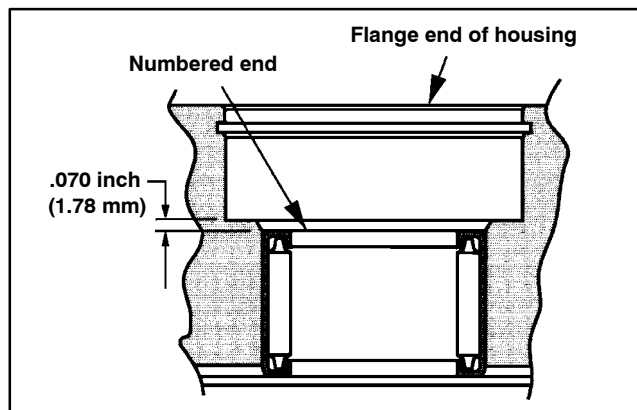
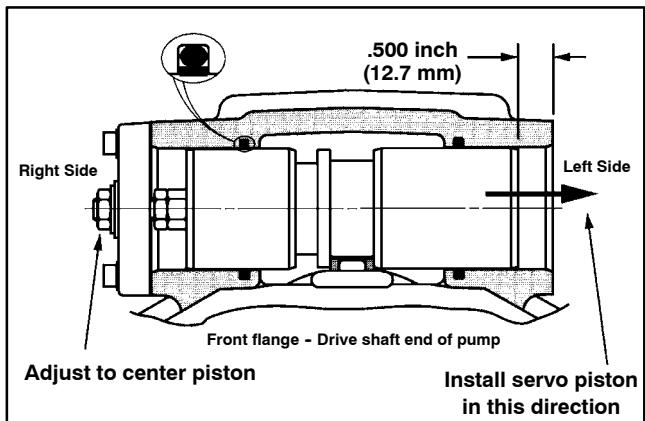

Figure 48
Figure 50
2. Check the bearing (39) (press fit) in pump housing (19). If needles remain in cage, move freely, and setting at the dimension shown in Figure 48, bearing removal is not required.
2. If necessary, press new bearing into pump housing to dimension shown in Figure 48 with the numbered end of bearing outward.
3. Install the two new seal sub-assemblies (37) into the servo piston cavity of pump housing (19).
4. Screw the cover plate (10) onto the servo piston assembly (7). Install new cover plate gasket (33) in place on pump housing. Install servo piston assembly (7) and cover plate (10) into servo piston bore in right side of housing (Fig. 50). Retain cover plate with four washers (31) and socket head screws (5). Torque screws from 40 to 48 in-lb (4.5 to 5.4 N-m). To obtain neutral, centering the servo piston assembly is required. Measure in from the left side and set servo piston .500 in. (12.7 mm) from surface of servo housing bore as shown in Figure 50.